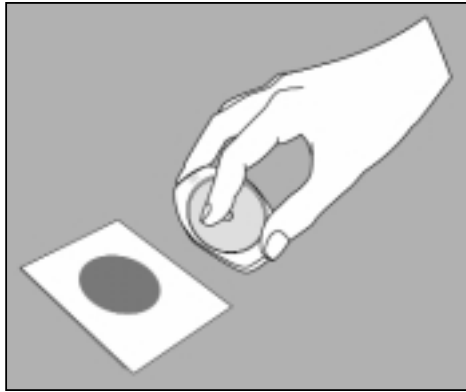

Figure 7
7. Lift the spreader. Wait at least 1 minute for the gel to solidify (fig. 7).